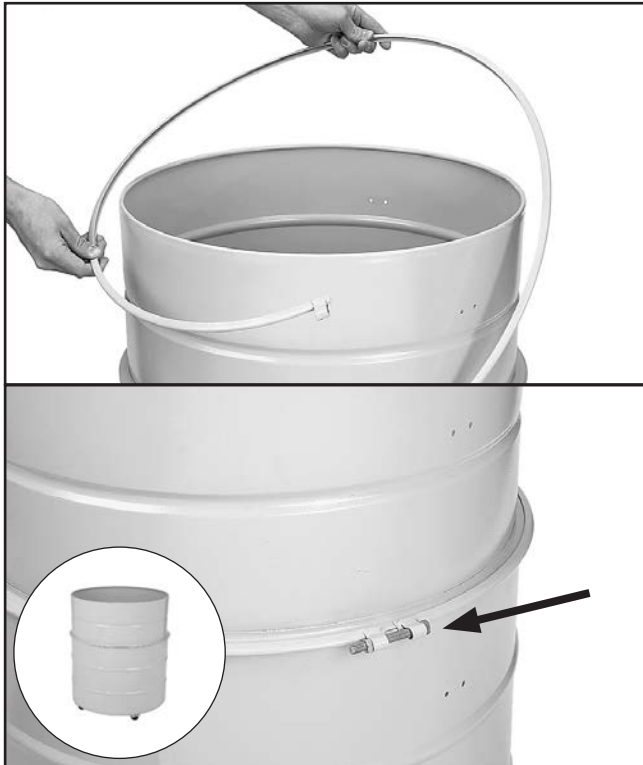

Figure 28. Installing metal clamp around collection drum.
25. Connect upper and lower collection drums with included metal clamp and provided hex bolt and nut, as shown in **Figure 28**.